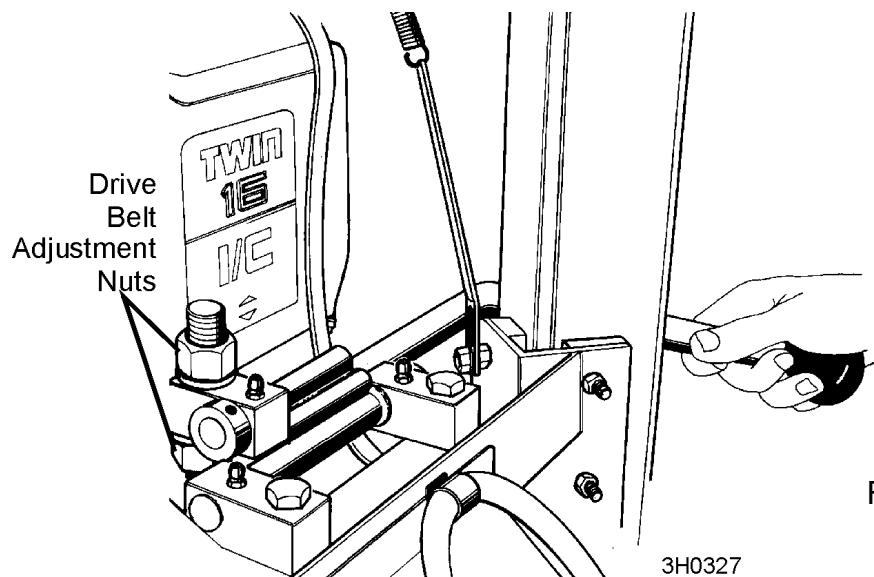

FIG. 3-1
- 50 **See Figure 3-1.** Check the drive belt tension after the first 20 hours, and every 50 hours thereafter. The drive belt should have 7/16" (11 mm) deflection with a 14 lb. deflection force. To adjust the drive belt, remove the two belt covers located underneath the engine. To adjust the drive belt, loosen the bottom adjustment nut and tighten the top adjustment nut.